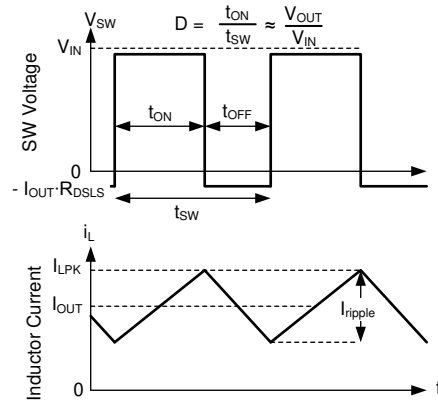

图 8-15. SW Voltage and Inductor Current Waveforms in Continuous Conduction Mode (CCM)
The following operating description of the LM61440 refers to Figure 8.2 and to the waveforms in Figure 8-15. In CCM, the LM61440 supplies a regulated output voltage by turning on the internal high-side (HS) and low-side (LS) NMOS switches with varying duty cycle (D). During the HS switch on-time, the SW pin voltage, V_{SW} , swings up to approximately V_{IN} , and the inductor current, i_L , increases with a linear slope. The HS switch is turned off by the control logic. During the HS switch off-time, t_{OFF} , the LS switch is turned on. Inductor current discharges through the LS switch, which forces the V_{SW} to swing below ground by the voltage drop across the LS switch. The converter loop adjusts the duty cycle to maintain a constant output voltage. D is defined by the on-time of the HS switch over the switching period: